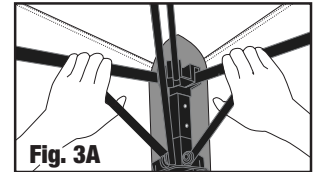

Fig. 3A
- HANDY TIP:** To fully engage the push button, grip the top and bottom frame members and squeeze as shown in Fig. 3A. Be careful to avoid pinch points.